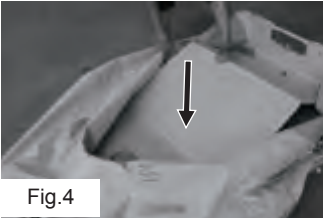

Fig.4
c. Step on raised part of two connected floor sections and push down the two boards at the joint. Make sure the deck is flattened by spreading inside the boat (Fig 4).